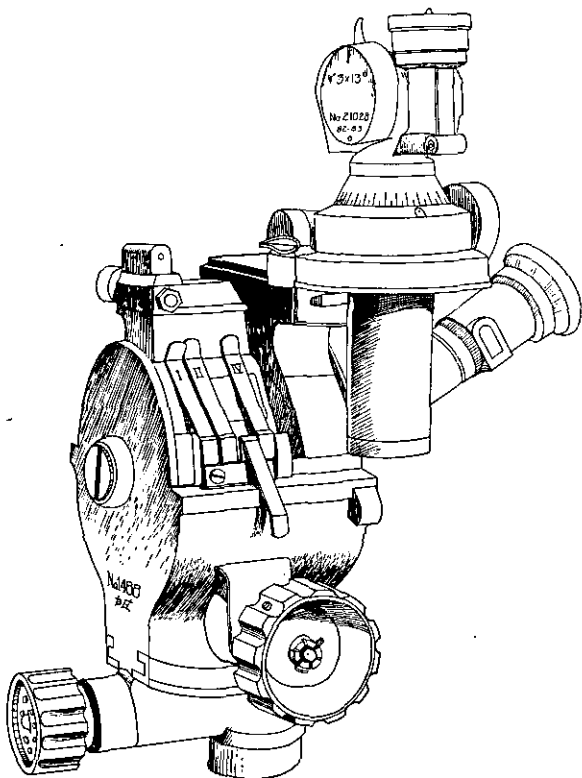

Figure 139.—Panoramic artillery sight.
(2) *Sight*.—The Model 92 (1932) 70-mm howitzer uses the same panoramic sight (fig. 139) as the field-artillery weapons. The mount of the sight is on the left side of the piece. The sight bracket includes a range drum, an elevating bubble, and a cross-leveling bubble for correcting for differences in level of the wheels. There are four strips on the range drum, numbered I, II, III, and IV, corresponding to powder charges 1, 2, 3, and 4. When the strip which is selected ac-